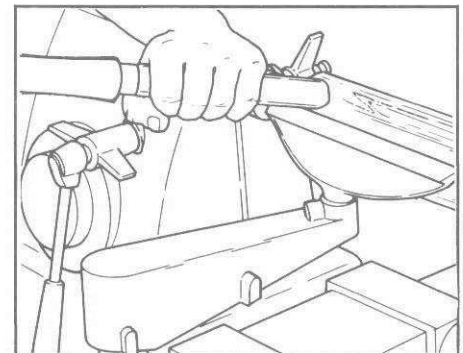

Figure 5. Rounding.
d. Feed the gouge into the stock and draw it back along the tool rest. Repeat this procedure until the stock is completely round. (See Figure 5.) Then turn off the Mark V.